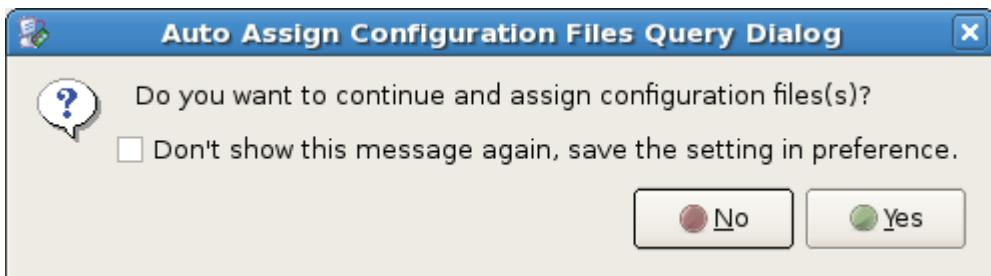

Figure 12: Auto Assign Configuration Files Query Dialog Box
5. In the Auto Assign Configuration Files Query Dialog box, click Yes (Figure 12).